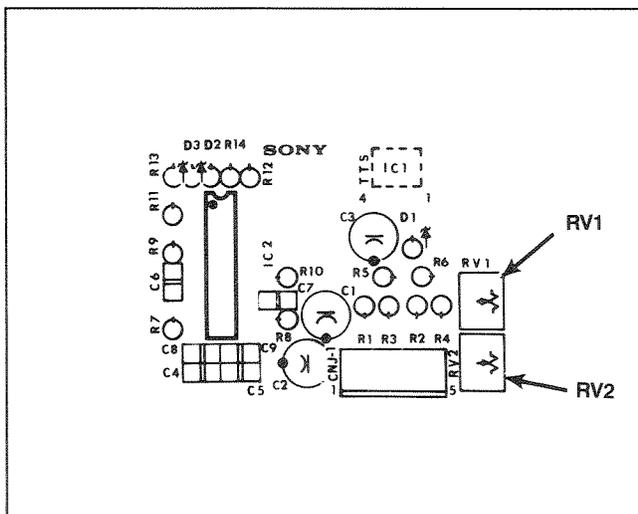

Figure 6-16. TTS PC Board
STEP 5 If the duty cycle is not 50%, it will be necessary to adjust RV1 on the TTS board. (See Figure 6-16.) To access the TTS, it is necessary to remove the top front cosmetic cover (see Section 6.4.2).